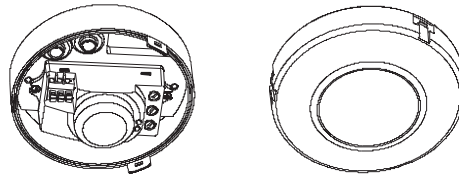

fig.2
1. Through the buckle under cover(see fig.1)(fig2)